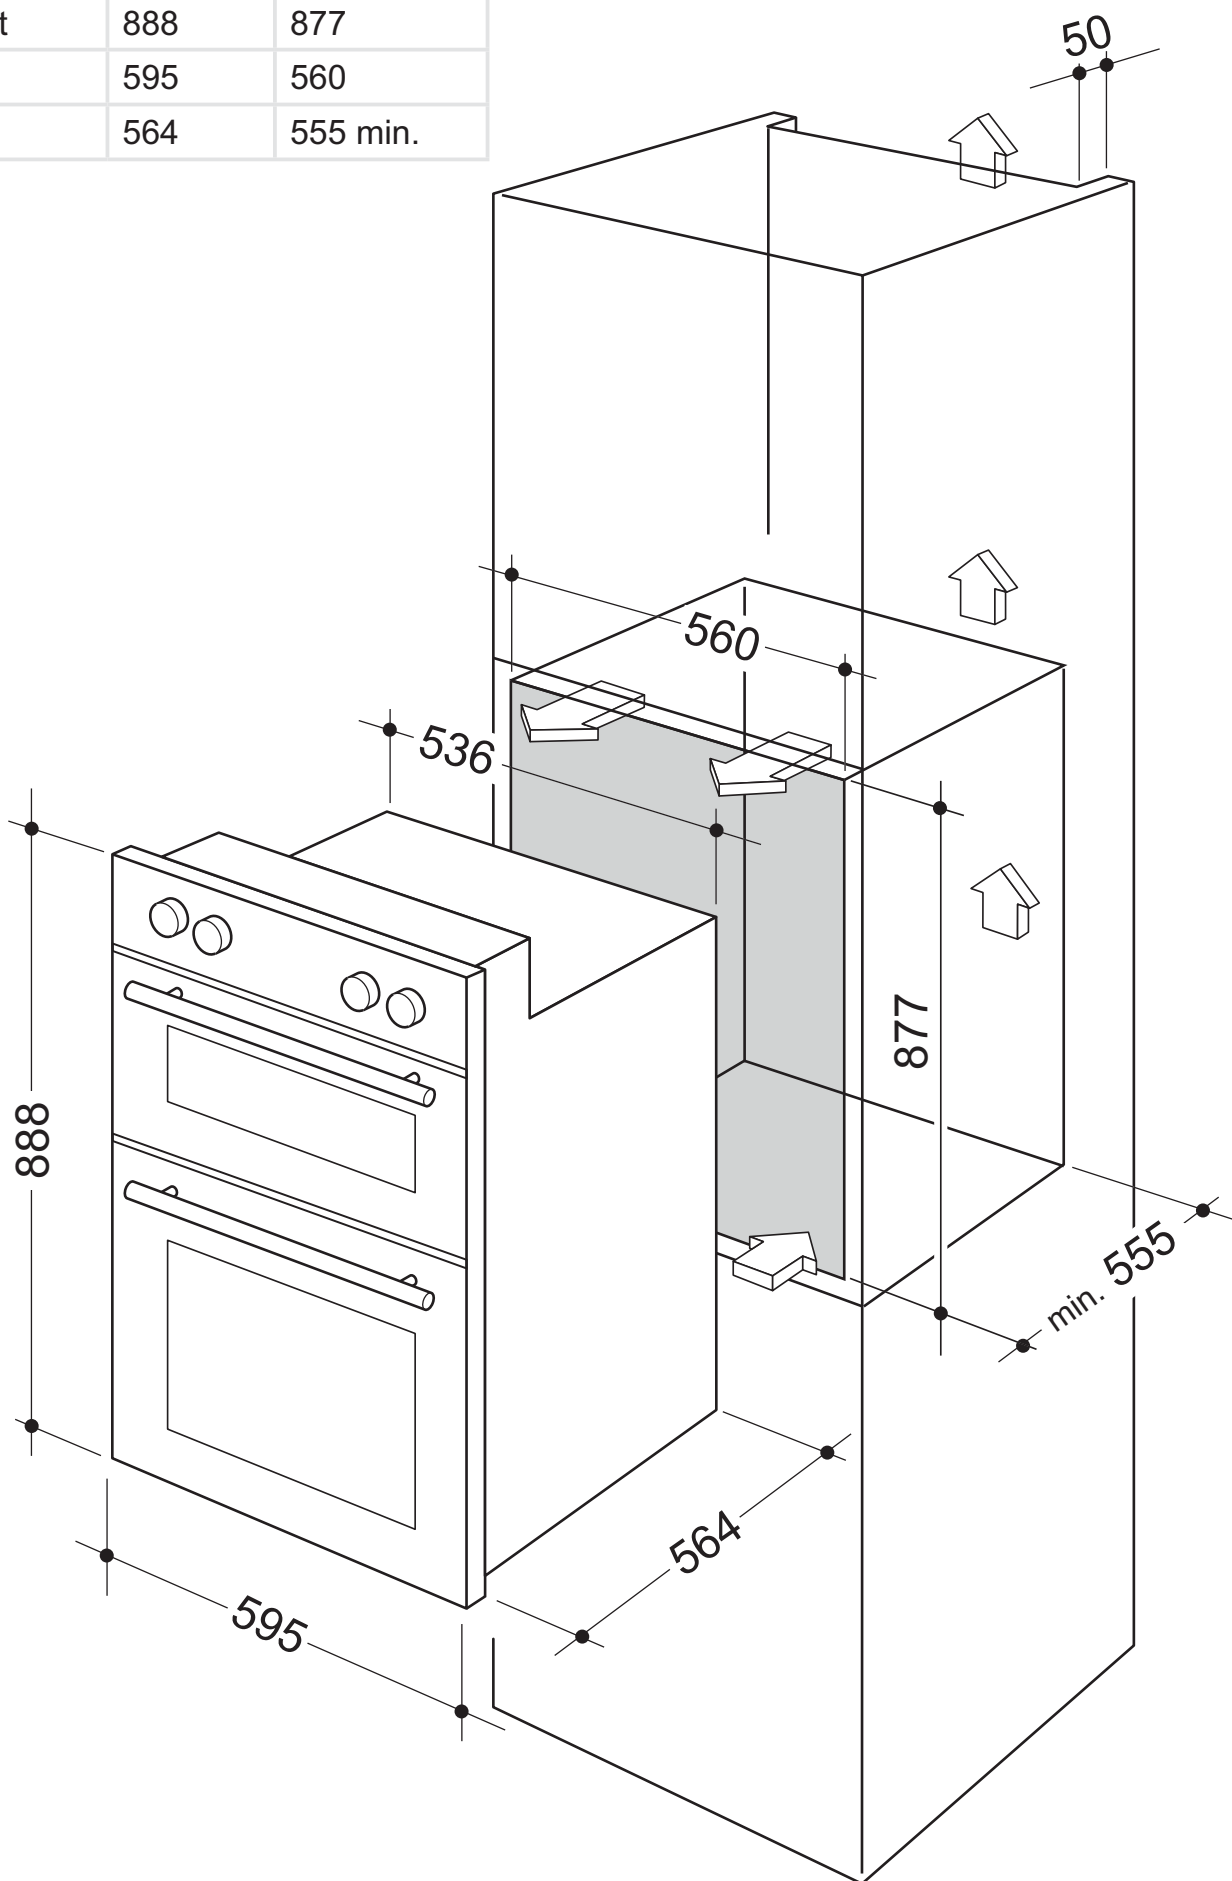

Figure 1
- Installation requires a compartment as illustrated in figure 1.